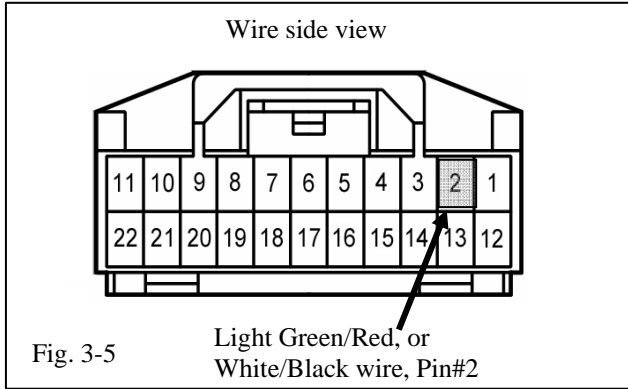

Fig. 3-5
- (e) Locate the LIGHT GREEN/RED (or WHITE/BLACK) wire in pin #2 on the 22-pin connector. (Fig. 3-5)